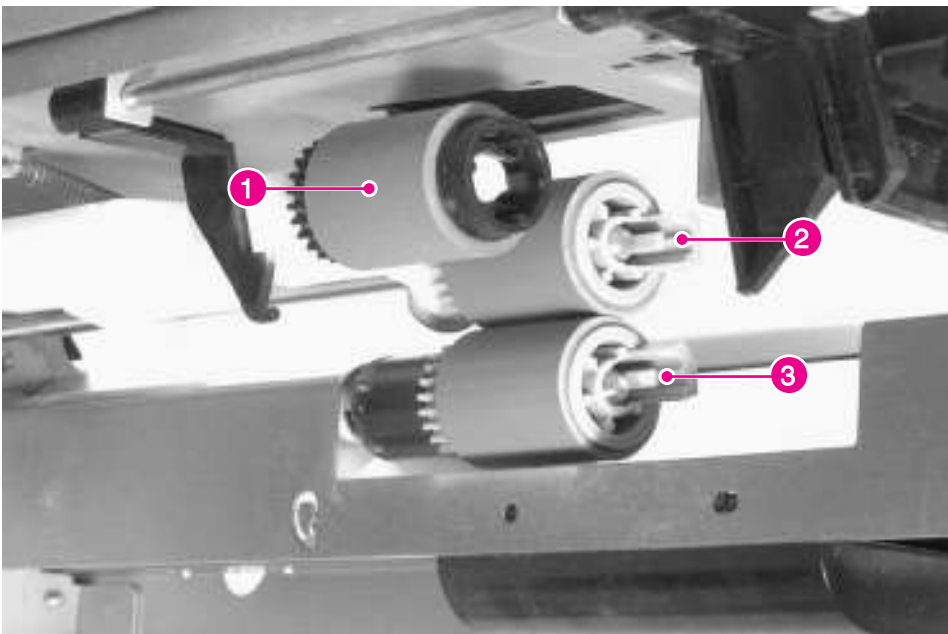

Figure 6-99 Pickup, Feed, and Separation Rollers
- Pickup Roller: figure 6-99, callout 1
- Feed Roller: figure 6-99, callout 2
- Separation Roller: figure 6-99, callout 3